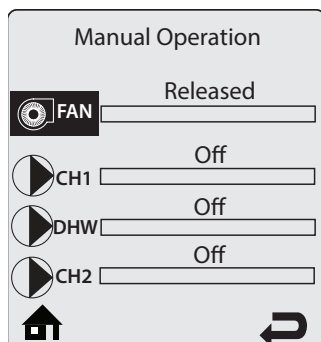

Fig. 5: CTRLMax Manual Operation
4. Press the CENTER button while the FAN icon is highlighted to manually fire the burner and power the CH circulator. See Fig. 5